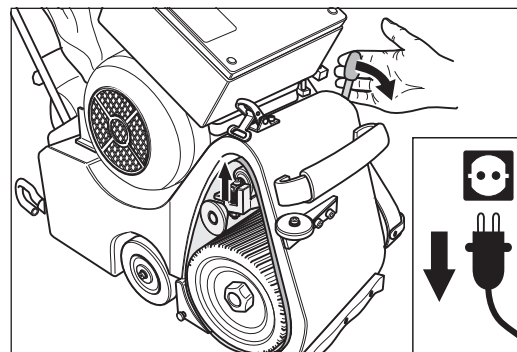

Fig. 39 Tension the sanding belt by lowering the operating lever. **Otherwise, damage or injury can occur!**
- 8 To tension the sanding belt, press the operating lever of the drive unit downwards (Fig. 39). **Otherwise, damage or injury can occur!**
- **Always** tension the sanding belt before switch on the machine (Fig. 39)!